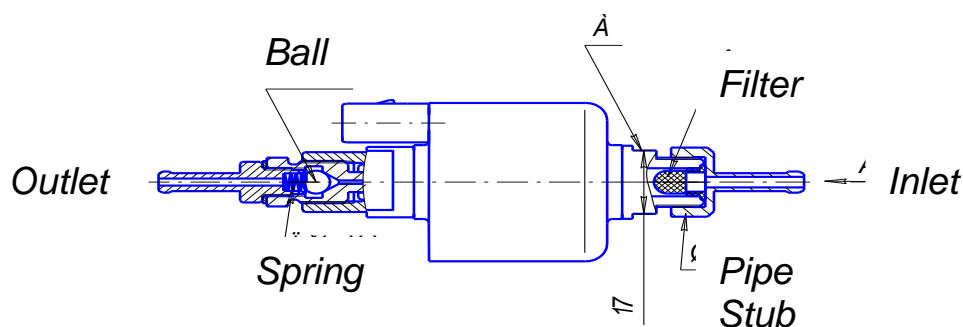

Figure 12. Fuel pump
- 1) remove the fuel supply pump from the vehicle; using a wrench (F/A 17), fix the pump in place, unscrew the pipe stub and remove the filter (see Figure 12). Do not fix the pump in place using surfaces other than Surface A when removing and installing the pipe stub;